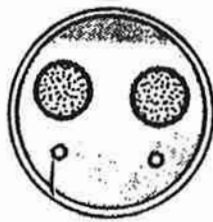

Figure 4
- Addition of service or ground wire requires adding one full layer of sealant to form a collar for each wire. (See figure 4.)